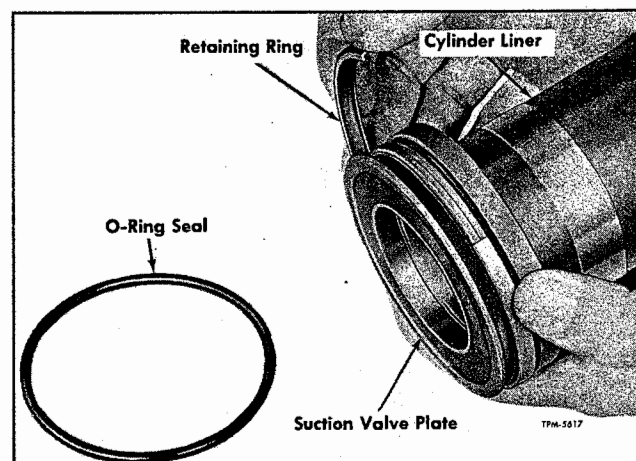
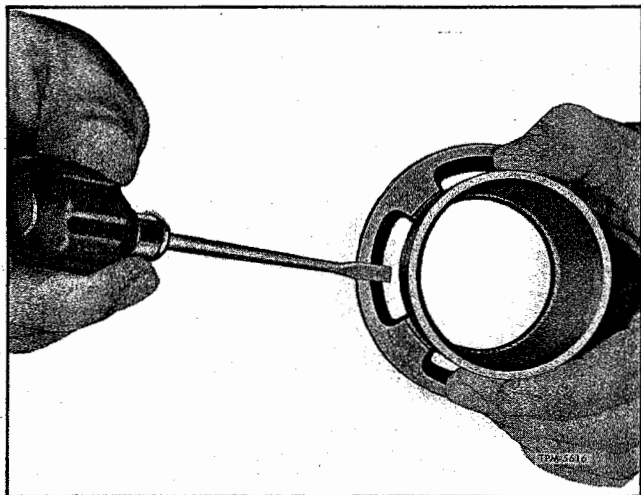

Figure 24—Installing Suction Valve Plate and Retaining Rings
Figure 25—Checking Suction Valve Alignment
1. Apply compressor oil to O-ring seal (22), then install seal into groove of suction valve plate (23).
2. Invert suction valve plate (23) on bench, then place four springs (19) into spring pockets. Center the suction valve (18) over springs.
3. Lower the cylinder liner (20) down over valve to suction plate, then install three retaining ring segments (21) to retain suction valve plate to cylinder liner (fig. 24). Make sure suction valve is properly seated on valve seat (fig. 25).
are properly aligned with notches in nose ring. Install seal assembly against spring (fig. 25).